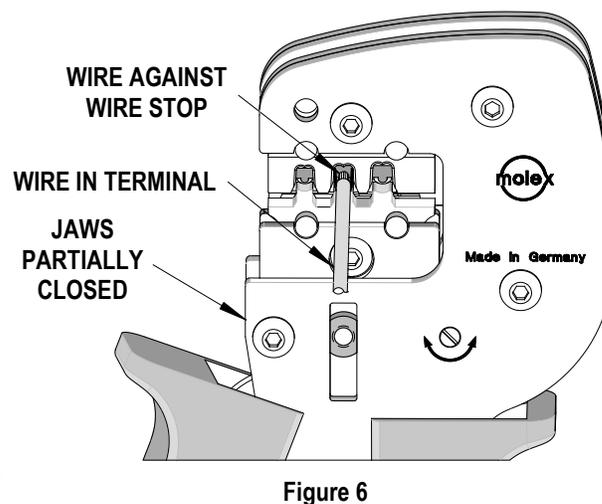

Figure 6
8. Gently touch the wire stop with the end of the wire. See Figure 6 and 7.